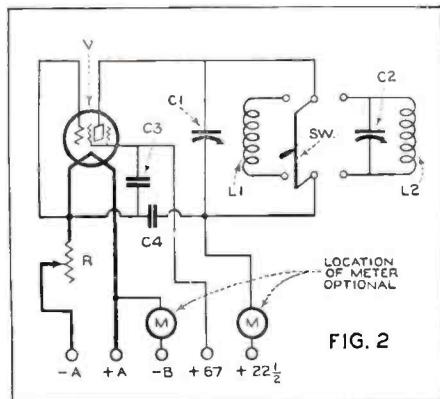

Figure 2. The schematic diagram of the dynatron oscillator. Note particularly that the screen-grid voltage is higher than the plate voltage
"Here's the circuit (Figure 2) of a frequency meter designed to function in all five of the present ham bands. For 1750 k.c. it works with the inductance L1 and the condenser C1 on the fundamental. For the 3500 k.c. band it works with the same coil and condenser but on the second harmonic. Throwing the switch (SW) connects the coil L2 and the condenser C2 across C1 and disconnects L1. This combination works on 7000 k.c. on the fundamental and the harmonics take care of the fourteen and twenty-eight megacycle ranges.
The circuit for a single type -45 power tube is shown in Figure 2. This follows the same general changes outlined above, and is self-explanatory. A separate filament lighting transformer is employed for the power tube. It is desirable to use a type -45 even if the available plate voltage is only 180, where the output of this tube still exceeds that of the type -71A.